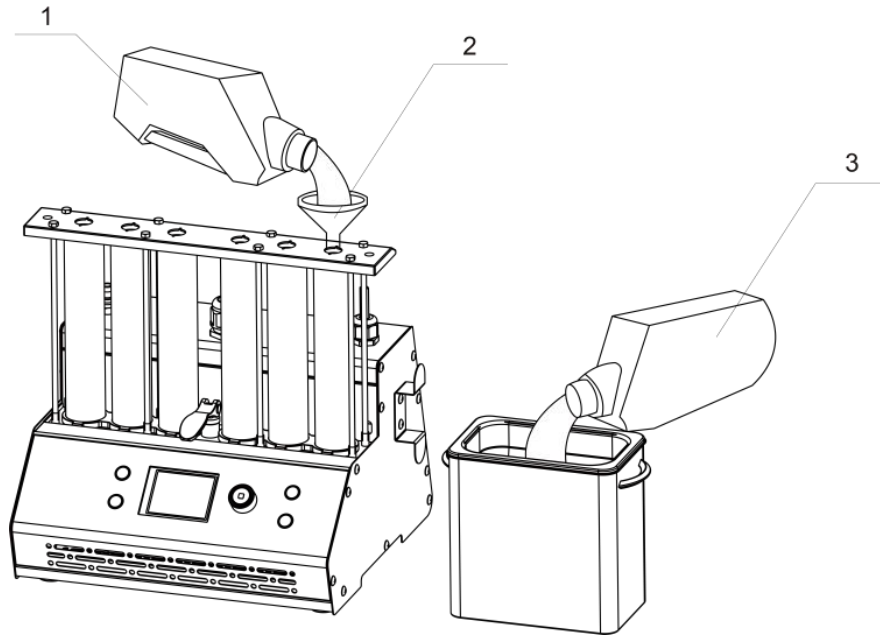

Figure 4.1
- 2) Check and add test solution. Lift the fuel drain handle and use refueling funnel to fill 2000ml of test solution into the fuel filling port (pay attention to the control of the filling speed to prevent the test solution from overflowing from the fuel filling port), as shown in Figure 4.1.